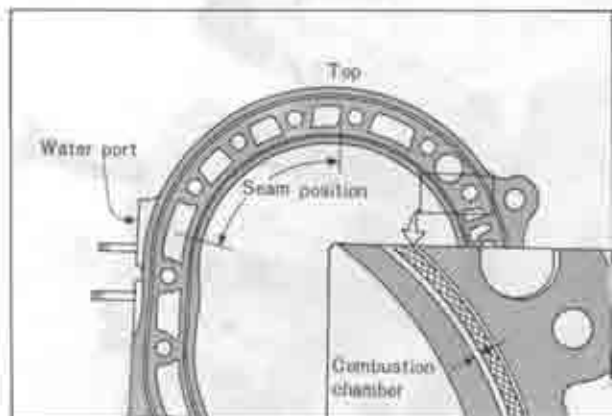

Fig. 1-63 Positioning inner sealing rubber
1) The wider white line of the inner sealing rubber should face to combustion chamber and the seam of the sealing rubber should be placed at the position as shown in Fig. 1-63.